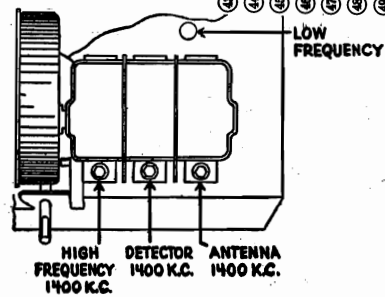

Fig. 5—Top View of Chassis showing Comp. Cond. mid. on Tuning Condenser, Model 18, also Low Freq. Compensating Condenser.
sensitivity, the high frequency and low frequency compensating condensers are re-aligned as described in the following paragraphs. Figure 5 shows the location of these compensating condensers. The OSC; High Frequency compensating condenser is adjusted at 1400 kilocycles,—with the signal generator of the Model 048 Set Tester set at that frequency. Next the Detector and Antenna Condensers, located on the tuning condenser assembly, should now be adjusted, with the signal generator still operating at 1400. The last adjustment is that of the low frequency (LF) compensating condenser which is accessible from above through the hole in chassis alongside the tuning condenser assembly. This adjustment is made with the signal generator set to give a 700 K.C. signal. A final re-setting may be made of the H.F. condenser (signal generator at 1400) the maximum peak of compensation is desired.